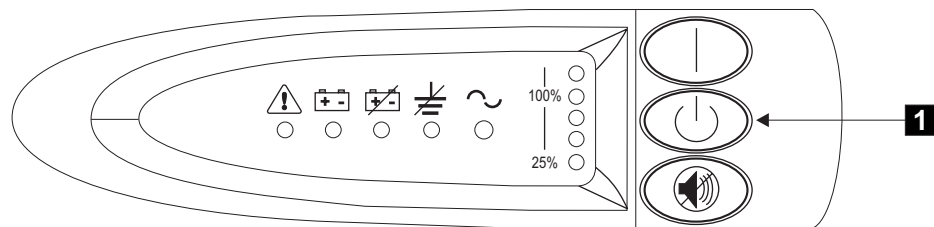

Figure 108. Uninterruptible power supply front panel assembly
1. At the front of the uninterruptible power supply, press and hold the off button **1** for approximately five seconds or until the long beep stops. See Figure 108.